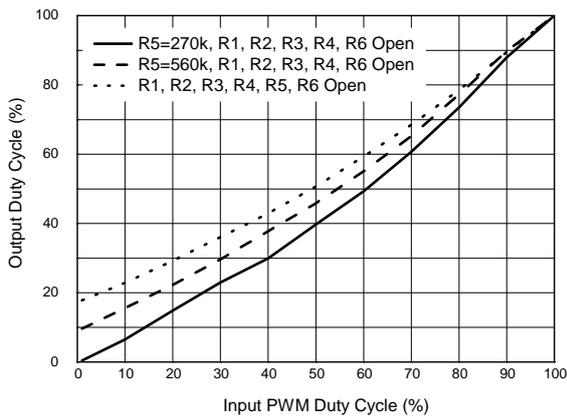

Figure 12
2. Adding R5 can increase K (see Figure 12).